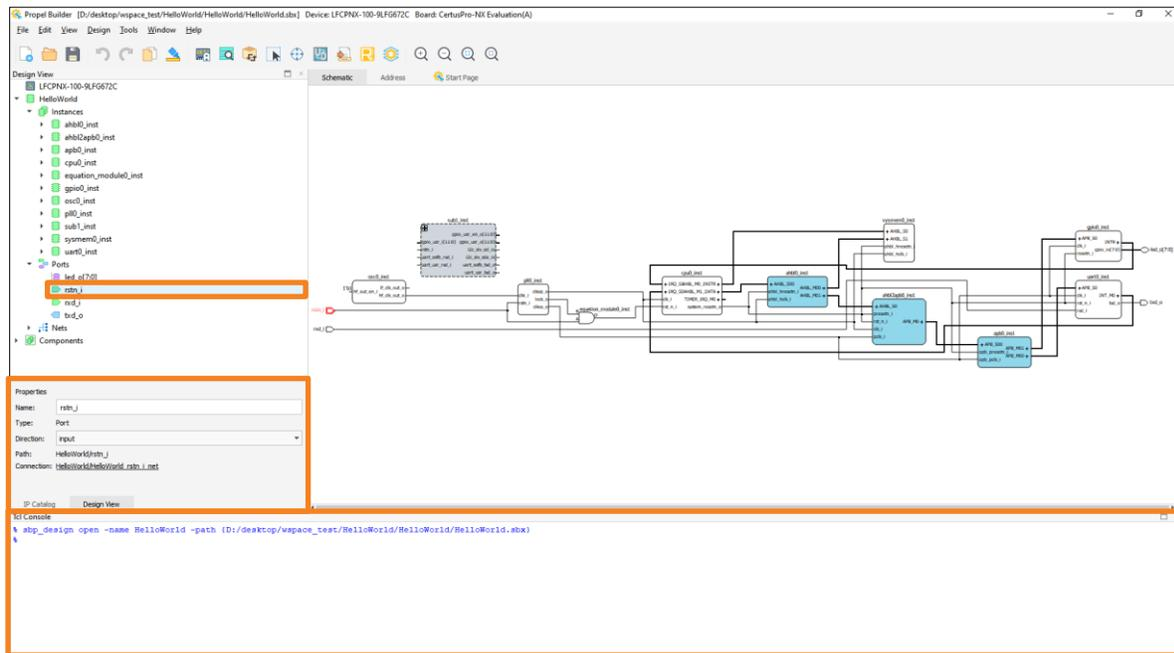

Figure 2.93. Properties of Port
- a. Click on a port, **Properties** window open (Figure 2.93).